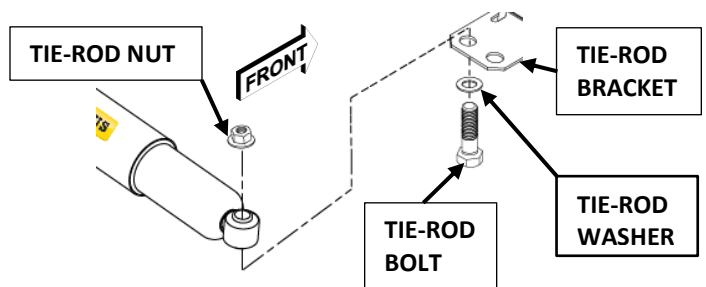

FIGURE 5. SAFE T PLUS INSTALL TO TIE-ROD BRACKET
7. With **Tie-Rod Bolt** threads facing up, loosely install small end of SAFE T PLUS® unit to the top of **Tie-Rod Bracket** with **Tie-Rod Bolt**, **Tie-Rod Washer**, and **Tie-Rod Nut** (Figure 5).
10. Torque **Tie-Rod Bolt** to **Tie-Rod Bracket** to **80-90 foot pounds** (*Figure 5*).